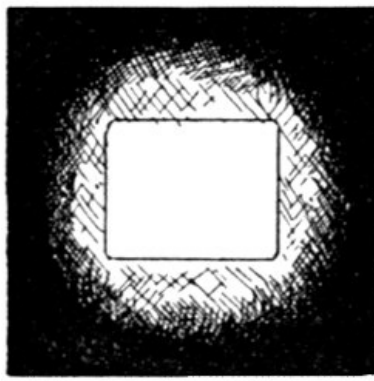

FIGURE 21.
In the projection of moving pictures there are two important points that must always be considered. (1) the size of the spot on the gate at which the film appears, and (2) the clearness of the field or light on the screen. By properly adjusting the arc, we can make the spot any size we desire; and the smaller we make it, so long as it covers the whole aperture, the brighter the light will be. But if we make this spot too small, we shall bring in the fringe of color which always appears at the outer edge. Color of this kind is objectionable and must be avoided as much as possible; but it is not necessary to go to extremes. A little coloring will not be noticed by the audience and will therefore not be objectionable. With a given system there will thus be a certain size of spot which gives the best results obtainable. Considering that if the spot is increased in size, the light becomes clearer but also less intense; and that if the spot is decreased in size, the light on the screen, though more brilliant, is liable to show coloring, a good operator should practice distinguishing the coloring and make himself as proficient in this art as possible. The customary proportions of spot and aperture are shown in Figure 21.